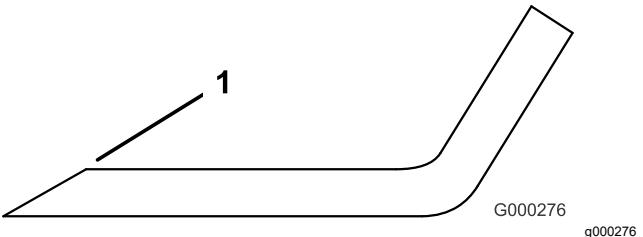

Figure 26
4. Examine the cutting edges of all of the blades and sharpen the cutting edges if they are dull or nicked (Figure 26).
Note: Sharpen only the top of the cutting edge and maintain the original cutting angle to ensure sharpness (Figure 26). The blade remains balanced if the same amount of metal is removed from both cutting edges.